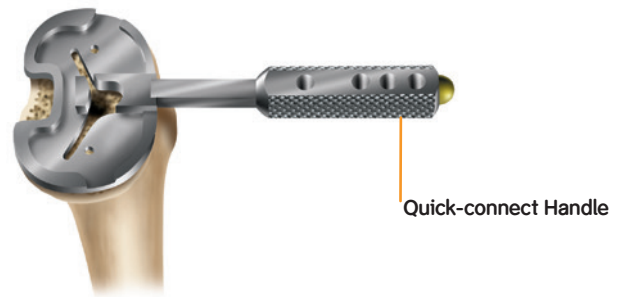

Figure 40
- 1 Attach a quick-connect handle to a stemless trial one size below the femoral component size and place on the cut tibia to assess coverage (Figure 40). As needed, additional sizes should be templated using the stemless trials.